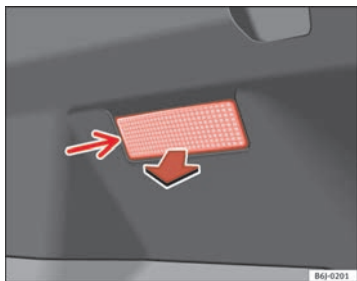

Fig. 161 Luggage compartment light
- Extract the tulip shaped fitting by pressing on the inside edge of this -arrow- using the flat side of a screwdriver ⇒ fig. 161.